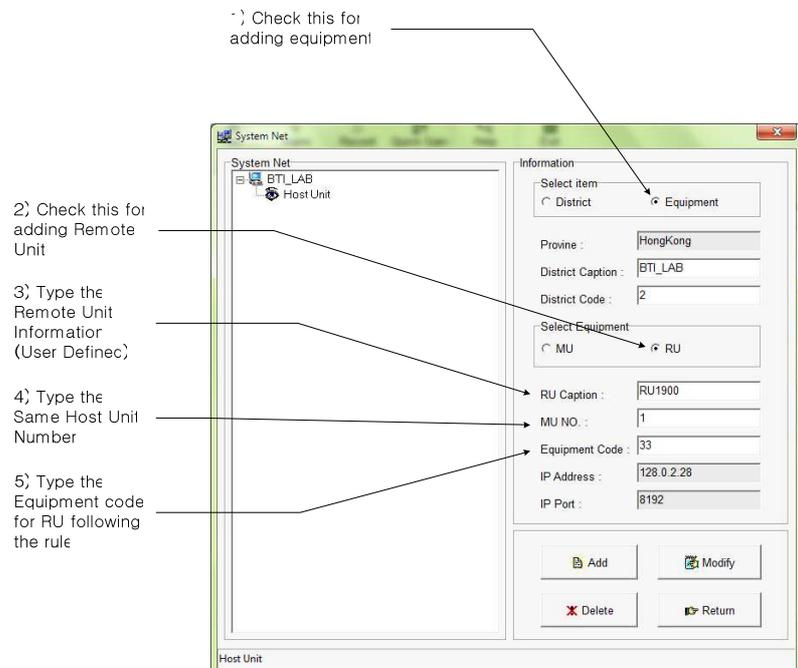

Figure 3-10. Add the Remote Unit below the Host Unit Tree
- After adding Host Unit, Remote units are required to add in the system configuration with same way for adding HU, as shown in Figure 3-10.